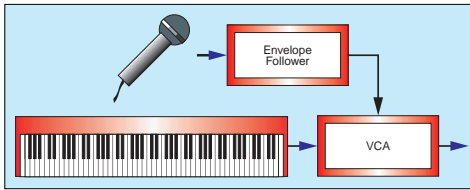

Figure 11: Articulating a keyboard sound using your voice.
► could attach a microphone and use your voice to articulate your keyboard playing — allowing sound through the VCA when you say (or sing) words, but creating silence between words (Figure 11). Unfortunately, the envelope follower is simply